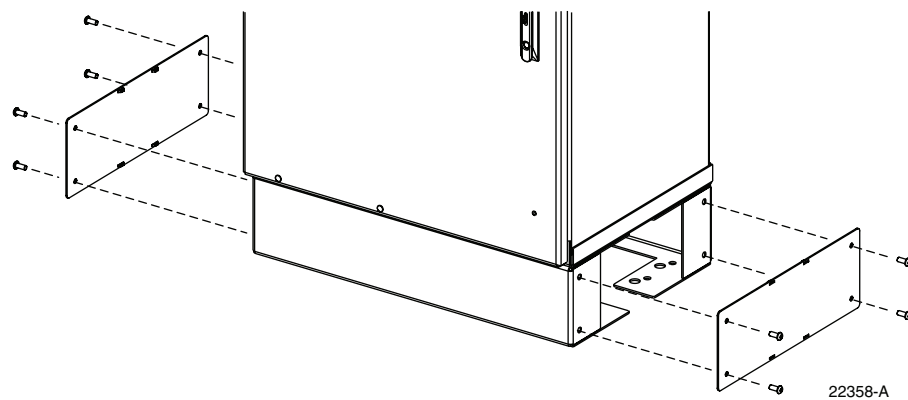

Figure 13. Removing Side Access Covers From Ground Spacer/Riser
1. Use a 3/16-inch hex-key to remove the screws that secure the access covers to the left and right sides of the cabinet ground spacer/riser as shown in Figure 13.